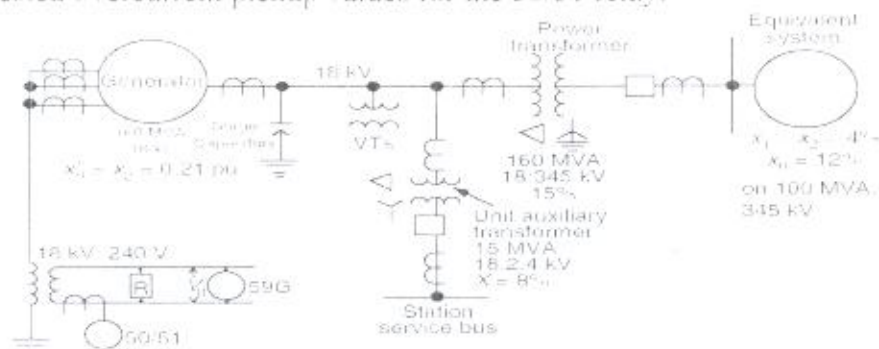

Fig. 1
- d) The unit generator shown in Fig. 1 has a capacitance-to-ground of value 0.2885 microfarads per phase and the ground resistor R has a 64.14 kW rating at 138 V.